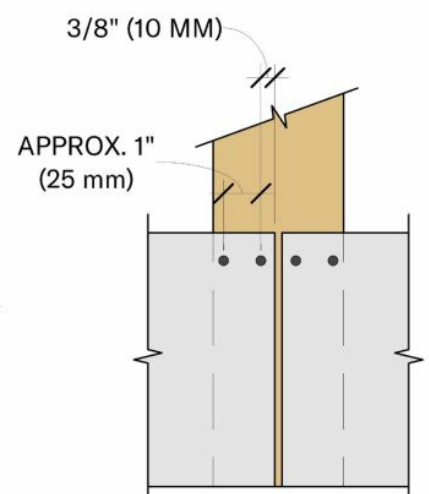

Figure 4
- Four nails required at butt joint. (Figure 4)